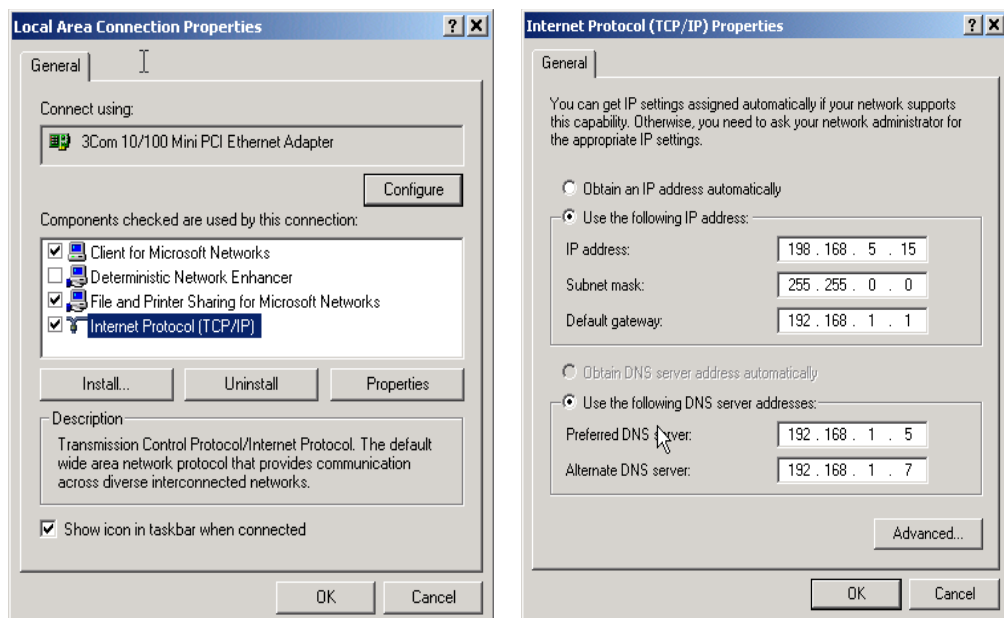

Figure 5-1 Windows 2000 IP Address Setting
4. Ensure that the computer has a fixed IP address, and not one set by a DHCP server. *Figure 5-1* gives an example of setting a fixed IP address on Windows 2000; be sure to select **Use the following IP address**. *It does not matter what IP address, network mask, and gateway are used.*